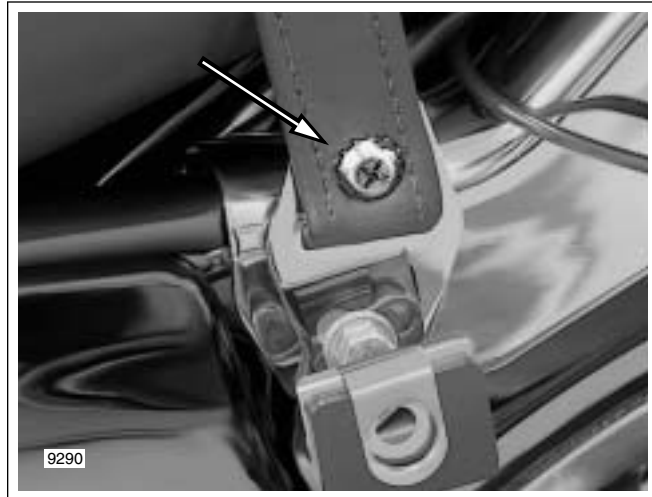

Figure 2-132. Seat Strap Bracket Screw (FLHT/C/U)
2. Remove Phillips screw to release passenger seat strap from seat strap bracket. A firm tug may be necessary to free end of strap from slot of seat strap bracket. See Figure 2-132.
5. Start Phillips screw to fasten passenger seat strap to seat strap bracket. Feed end of strap into slot of seat strap bracket and tighten Phillips screw to 48-72 **in-lbs** (5.4-8.1 Nm). See Figure 2-132.
6. Start Phillips screw to fasten passenger seat strap to seat strap bracket. Feed end of strap into slot of seat strap bracket and tighten Phillips screw to 48-72 **in-lbs** (5.4-8.1 Nm). See Figure 2-132.